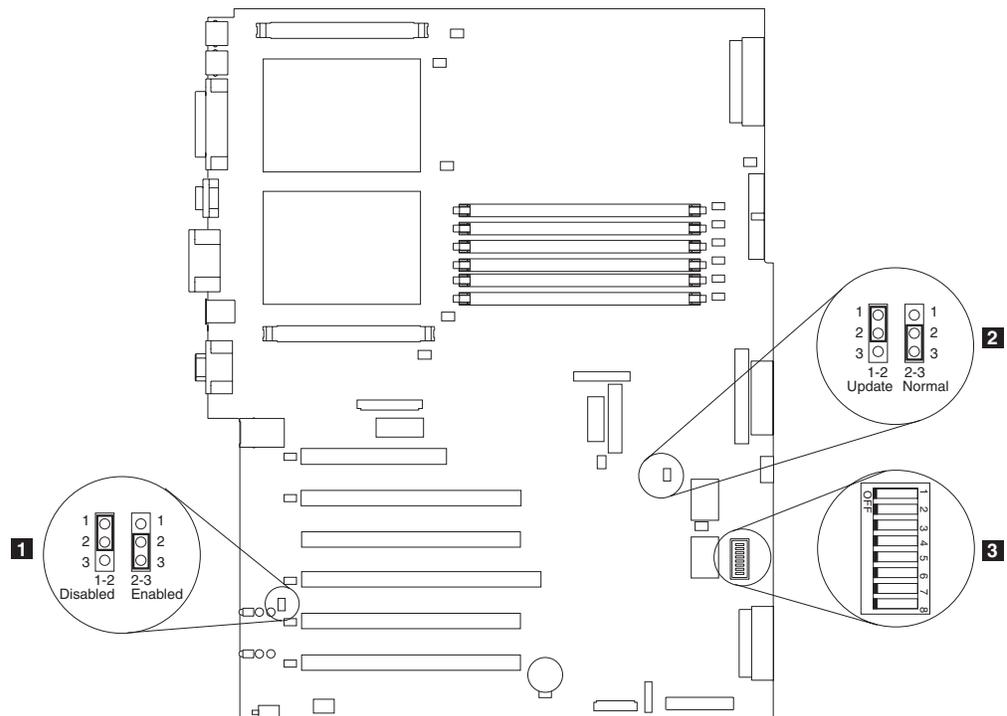

Figure 70. Setting the power-on password override switch
**Setting the password-override switch:** Use Figure 70 to set the power-on password override switch.